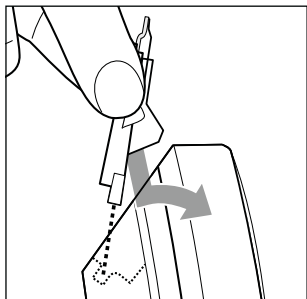

Fig. 10
- 6) Guide the nose of the shaving head **1** under the rear edge of the housing. Press the shaving head **1** down into the notch and then tip it forward until it audibly engages in the appliance (see fig. 10).